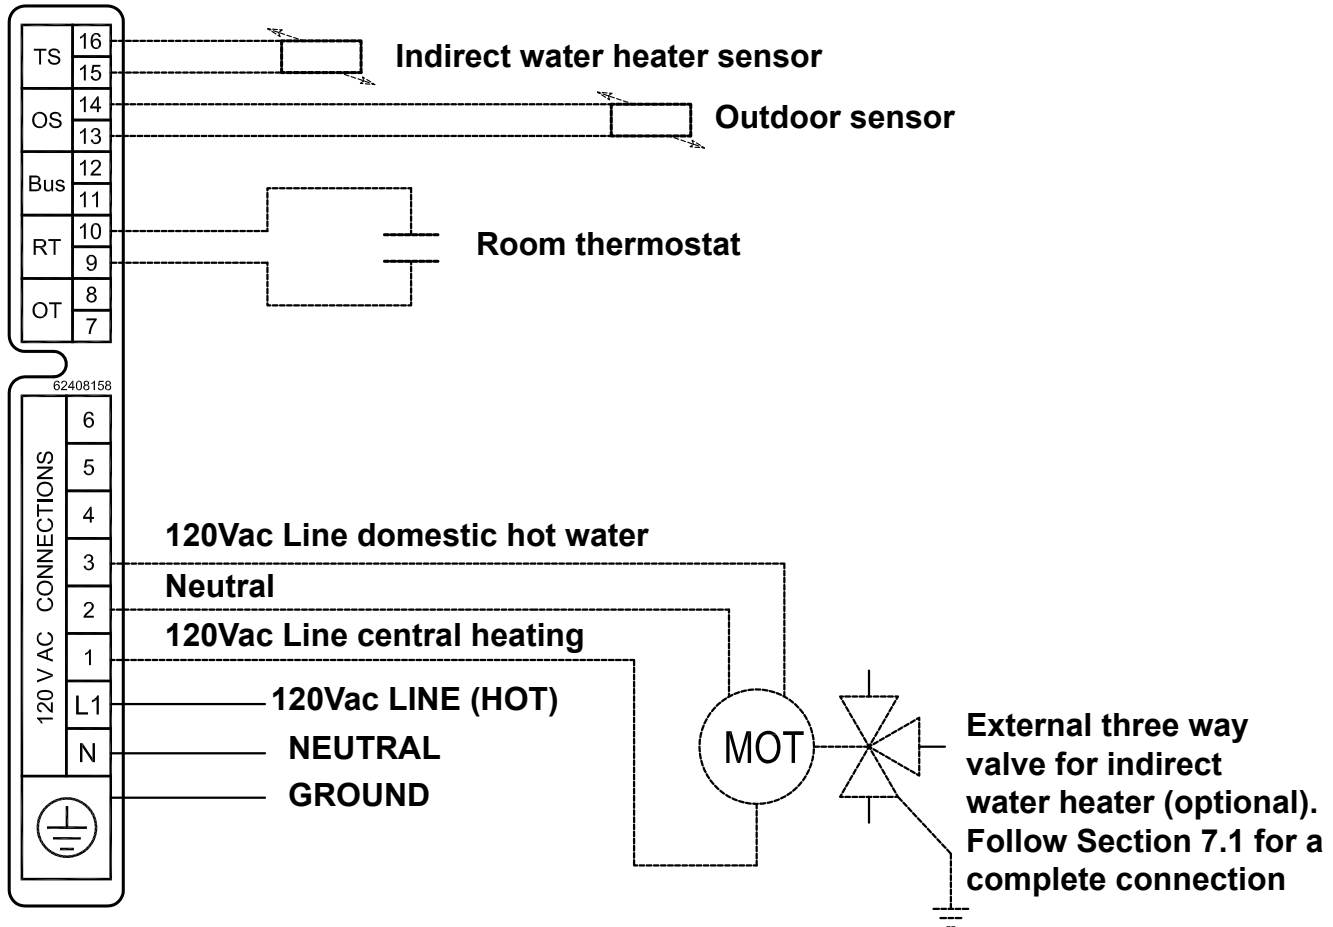

Figure 18 - Electrical connections
4. connect the cable leads to the "RT" terminals as shown in figure 18.
3. connect the outdoor temperature sensor cable leads to terminals OS as shown in figure 18;
Install the circulator pump as per figure 16 item "6". Wire the pump to the boiler following the steps below while referring to figure 18:
9. use a # 18 AWG two wire cable to connect the indirect storage tank temperature sensor to terminals "TS", item "M", as per figure 18;
11. use a #18 AWG four wire cable to connect the three way valve to terminals "1", "2", "3" and Ground as per figure 18 where: